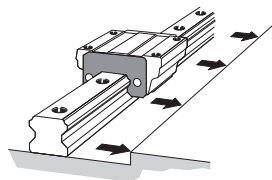

Fig.7 Aligning the LM Rail with the Reference-Surface
- (2) Gently place the LM rail onto the base, and temporarily secure the bolts to the extent that the LM rail lightly contacts the mounting surface (align the line-marked side of the LM rail with the side reference-surface of the base). (Fig.7)